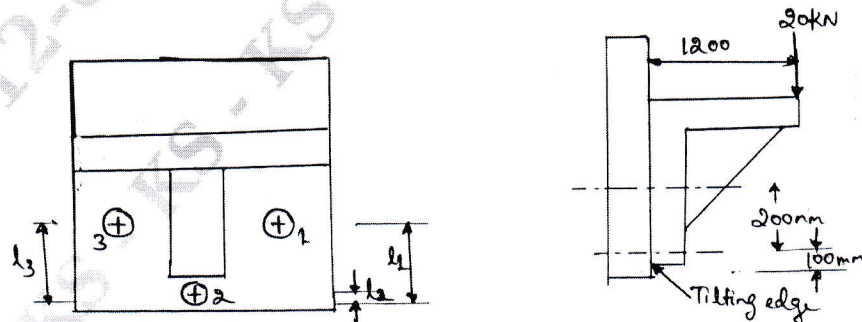

Fig.Q.7(b)
- b. Determine the diameter of rivet for the bracket as shown in Fig.Q.7(b). The allowable normal and shear stress are 120N/mm^2 and 60N/mm^2 . (07 Marks)